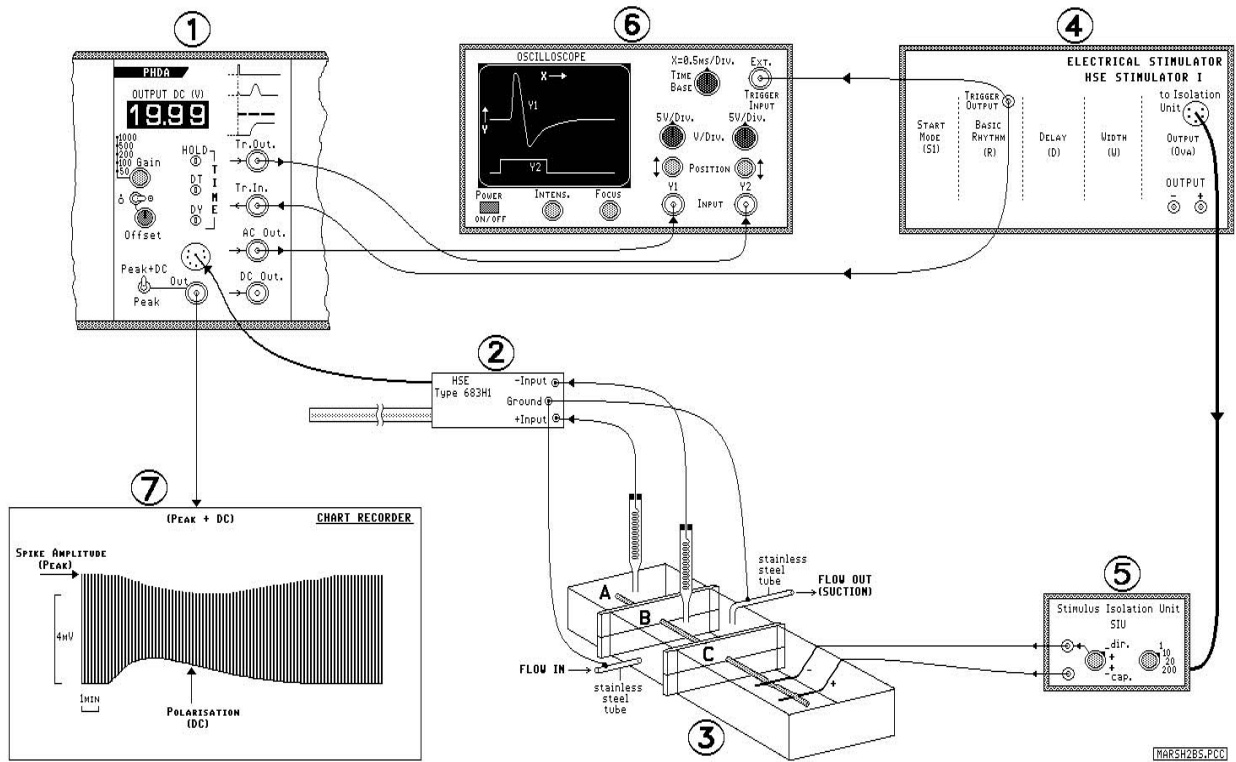
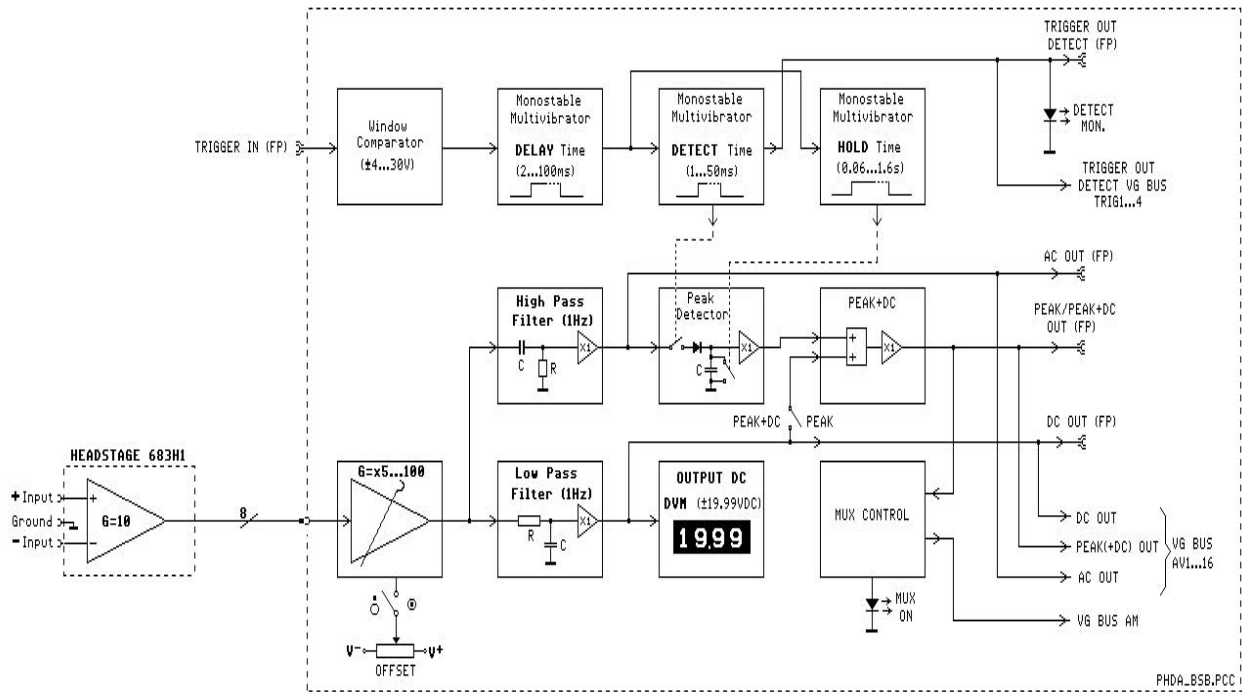
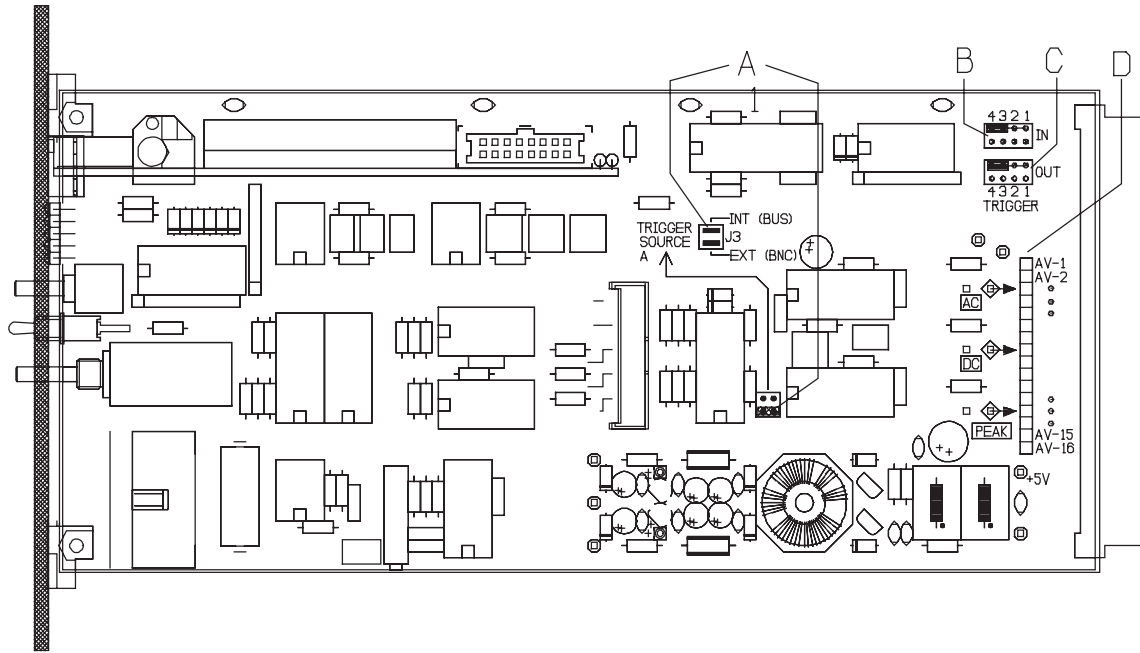

Fig. 3: Typical experimental set-up for measurement with the PHDA. For description see text.
Fig. 5: Block diagram of the Peak Height Detector Amplifier PHDA
Fig. 8: View of circuit board of the PHDA. Before installing the module in the housing the links A...D have to be determined. Note details in the text!
Fig. 3 shows schematically a typical experimental set-up for measuring substance-induced membrane polarisation and the evoked potential amplitude of an entire nerve bundle and ganglion (rat). The tissue vessel (3) with 3 chambers contains the nerve bundle on which the experiment is being performed. The nerve bundle is placed into the centre chamber B and projects at both ends into the adjacent chambers A and C. The chambers are electrically isolated from each other. The part of the nerve bundle on which potentials are being measured has to be in the centre chamber (B). In chamber C the nerve rests on two stimulation electrodes (platinum wire). The potential difference in the chambers A and B (EA and EB) is measured by means of two Ag/AgCl electrodes and passed to the input amplifier (683 H1) of the PHDA. The inlet and outlet tubes (stainless steel) for the perfusion solution in the centre chamber serve as reference electrode of the bath and are connected to the "ground" socket of the input box.
The connections for the measurement and trigger signals as required for operation are shown in Fig. 3. This figure illustrates the version of the PHDA with the wide front panel. When using the narrow version the 4 BNC sockets (right side) are omitted. In that case the signal paths have to be taken from the bus diagram (the bus diagram will be found in the Operating Instructions of the housing Type 600...607).
- 1 Connect up the equipment as shown in Fig. 3. Leave the instruments switched off and select the base settings as indicated below.
This control selects the duration of the active time for the peak detector circuit (c.f. Fig. 5). Adjustment range: 1 to 50 msec. Its adjustment is monitored on an oscilloscope so that the desired amplitude peak of the signal voltage is captured by the detector (cf. Fig. 3).
Trigger output (BNC socket) to check the detector time setting. While the detector is activated the voltage jumps from +5 Volt to 0 V (see Fig. 5). This signal can be monitored on the second channel of the oscilloscope in parallel with the a.c. signal. This signal can also be used to control the Z modulation (= brightness modulation) of the oscilloscope. The input for Z modulation is usually at the back of the oscilloscope.
This control adjusts the delay time between trigger signal at the trigger input (7) and the start of the detect time (see Fig. 5). Adjustment range: 2 to 100 msec. The delay is normally selected so that interference from stimulus artefacts or uninteresting rapid components of nerve impulses are cut off.
This control determines the hold time of the peak store. The hold time has to be so adjusted that the recorder used records correct amplitudes and that overlapping with the stimulation frequency is avoided (see Fig. 5).
Use the block diagram (Fig. 5) and the circuit board drawing (Fig. 8) and decide on the connections in accordance with your requirements. Do not forget to enter the selected connections afterwards into the appropriate bus diagram. The bus diagram can be found in the Manual of the PLUGSYS housing under the heading "Operating Instructions for Housing (usually item 1)
| Ref.in Fig. 8 | Signal description, notes | PHDA with wide front panel. Housing without bus (607) | PHDA narrow front panel. Housing with bus (600...603) | PHDA, wide front panel. Housing with bus (600...603) |